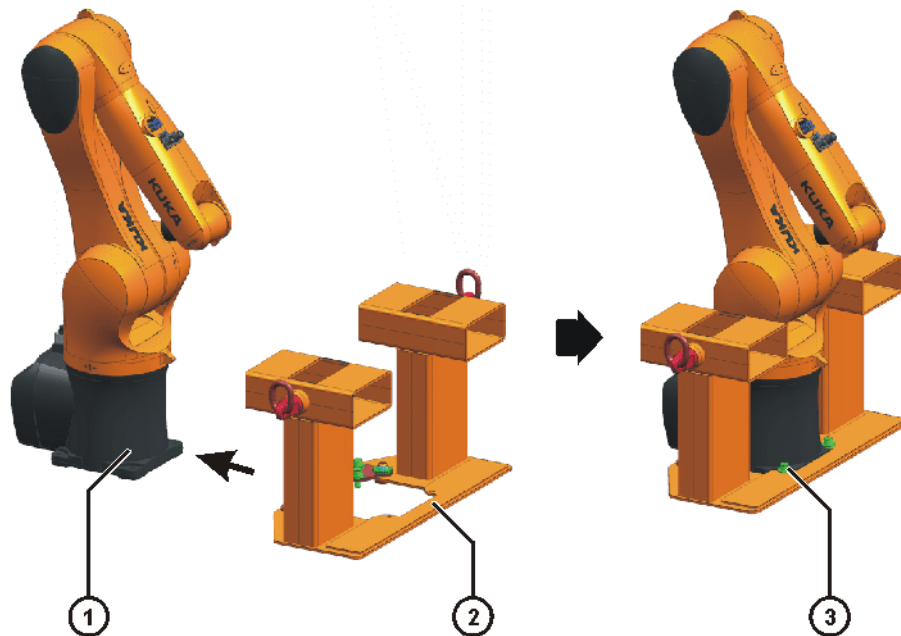

Fig. 8-4: Pushing on the Load Lifting Attachment and fastening it at the front
2. Carefully push the Load Lifting Attachment onto the base frame of the robot from the front (>>> Fig. 8-4).